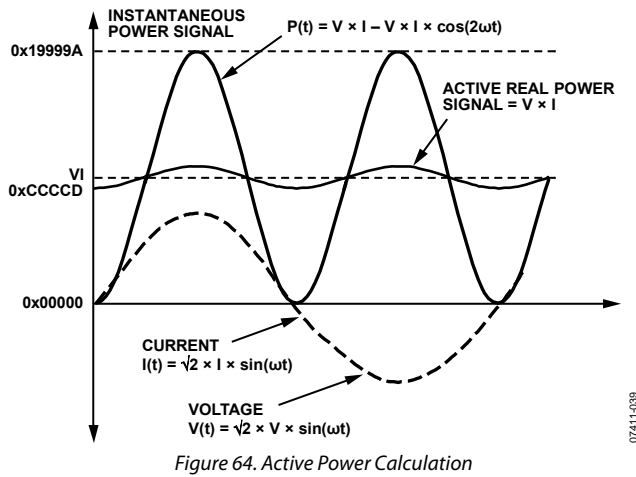

Figure 64. Active Power Calculation
Note that the active power is equal to the dc component of the instantaneous power signal,  $P(t)$ , in Equation 9, that is,  $VI$ . This is the relationship used to calculate active power in the ADE5166/ADE5169/ADE5566/ADE5569. The instantaneous power signal,  $P(t)$ , is generated by multiplying the current and voltage signals. The dc component of the instantaneous power signal is then extracted by LPF2 (low-pass filter) to obtain the active power information (see Figure 64).
As mentioned in the Active Energy Calculation section, the discrete time sample period (T) for the accumulation register is 1.22  $\mu$ s (5/MCLK). With full-scale sinusoidal signals on the analog inputs and the WGAIN register (Address 0x1D) set to 0x000, the average word value from each LPF2 is 0xCCCCD (see Figure 64). The maximum positive value that can be stored in the internal 49-bit register is  $2^{48}$  (or 0xFFFF FFFF FFFF) before it overflows. The integration time under these conditions when WDIV = 0 is calculated in the following equation: